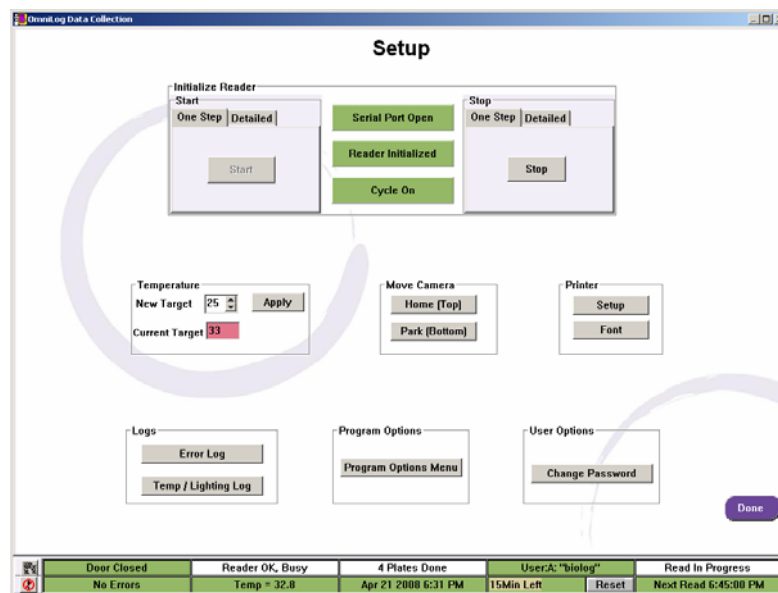

Figure 14 Setup Window
3. In the **Temperature** section of the **Setup** window (Figure 14), use the **New Target** arrows to select the target temperature.
3. In the **Setup** window, click the **Setup** button in the **Printer** section (Figure 14).
5. Click the **Font** button in the **Printer** section (Figure 14).